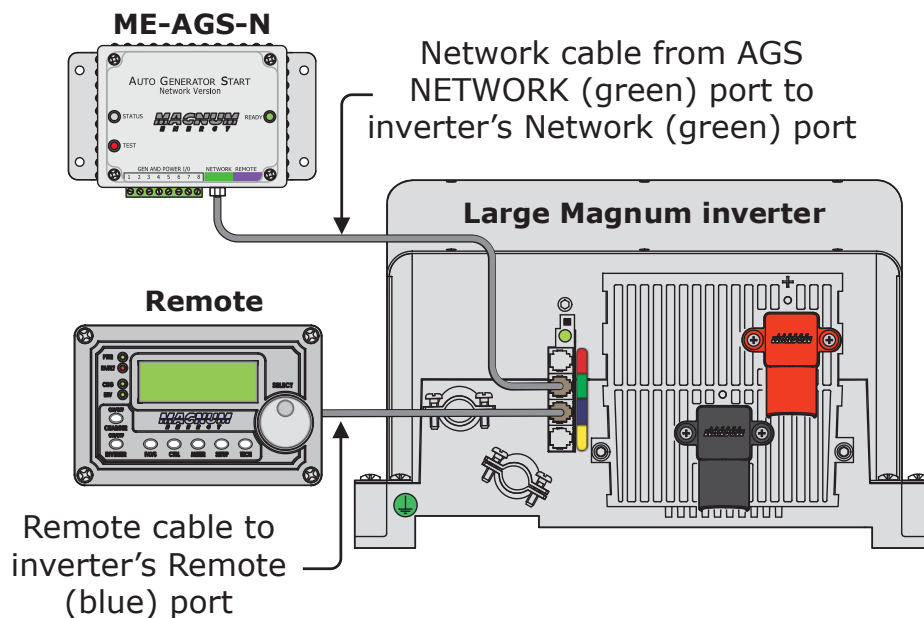

Figure 2-6, Connecting an AGS to an Inverter (Large)
- Large inverter (ME, RD, MS, MSH, MS-PE, MS-PAE Series)** – Connect one end of the communications cable to the AGS's RJ14 NETWORK (green) port. Connect the other end of the communications cable to the RJ14 Network port (green) on the large inverter (see Figure 2-6).